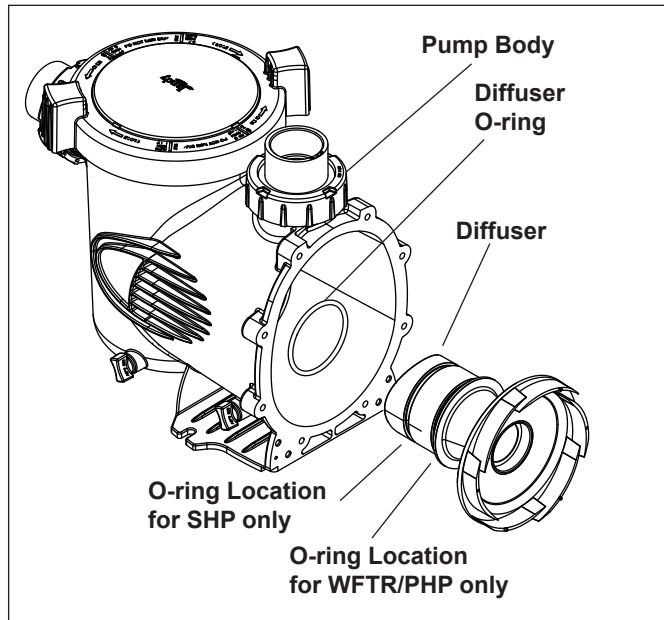

Figure 5. Location of Diffuser O-ring
7. Make sure the diffuser o-ring, o-ring groove, and o-ring seal area are clean and free of debris, which could cause a leak. If you removed the diffuser o-ring, make sure you install it into the proper groove. (See Figure 5.) If grease is used to retain the o-ring, it **must** be silicone based. **Do not** use petroleum-based grease. It **will** destroy the o-ring.
8. Slide the diffuser into the mating hole in the pump body. While supporting the motor, start two (2) screws on opposite sides. This will hold the motor in position while you start the other six (6) screws.
9. Tighten the screws lightly in a crossing "X" pattern using a 9/16" wrench starting with the inner (middle) four (4), then the outer (top and bottom) four (4) to draw the backplate to the body in an even manner. Once all the screws are snug, torque in the same order to 18 foot-pounds.